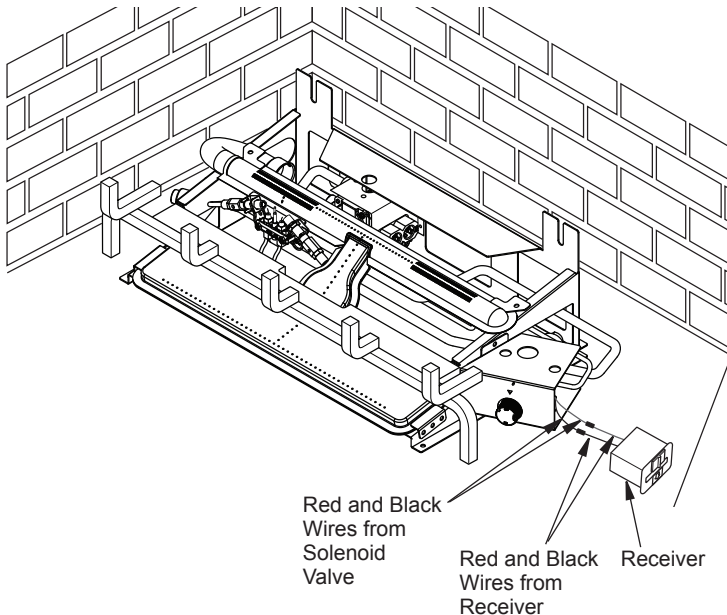

Figure 17 - Attaching Remote Receiver to Solenoid Valve
1. Remove battery cover on receiver as shown on the box. Install four AA size batteries into receiver, (see Figure 17).
2. Locate red and black wires from solenoid valve on right side of heater. Connect wires to receiver, red to red, black to black, (see Figure 17).
3. Place receiver to the side of the log set, (see Figure 17).